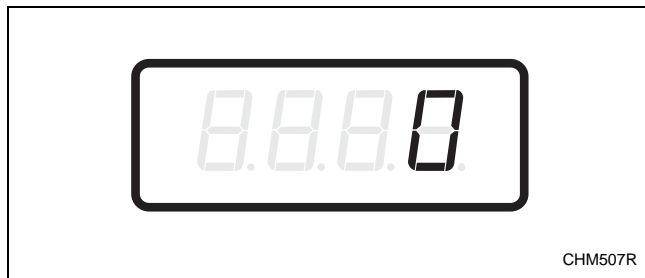

Figure 11
4. When “AtS6” appears in the display, press the START (enter) keypad. There are five digits in the Delicate/Cold Vend Price. The fifth digit will appear in the display and will flash one (1) second on, one (1) second off. Refer to *Figure 11*.